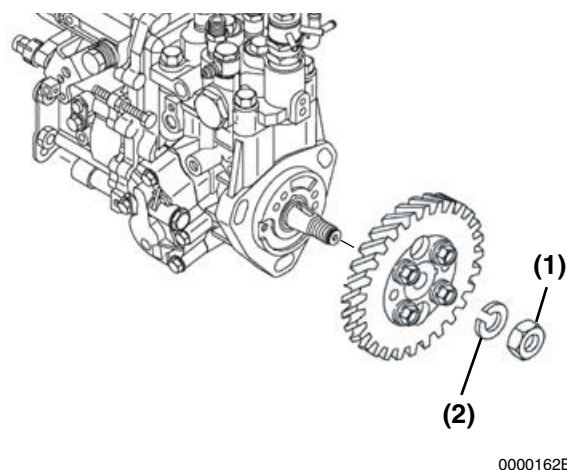

Figure 7-14
21. Once the fuel injection pump drive gear and hub assembly has "popped" loose from the tapered fuel injection pump drive shaft, carefully remove the drive gear nut (**Figure 7-14, (1)**) and lock washer (**Figure 7-14, (2)**).